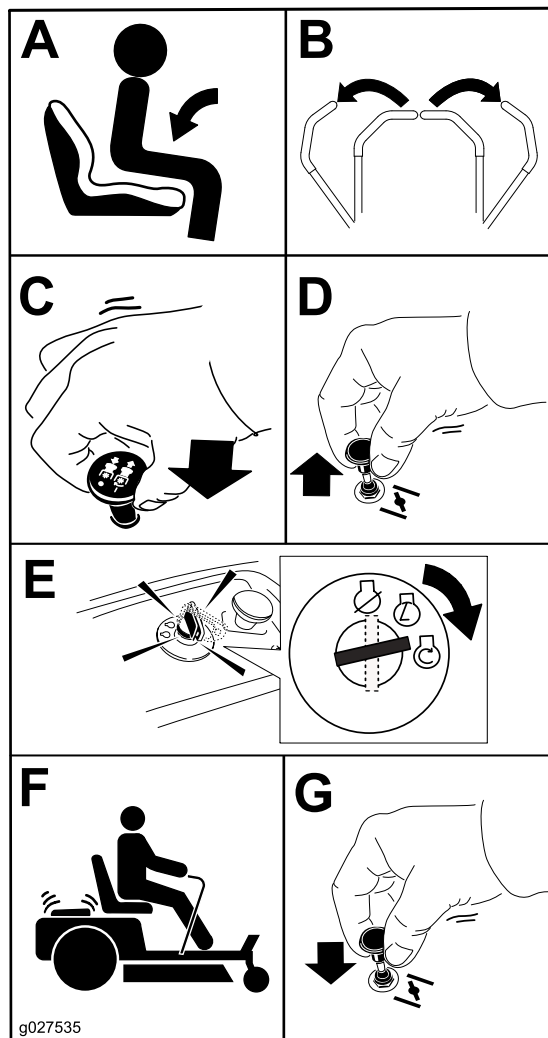

Figure 10
**Note:** A warm or hot engine may not require choking (Figure 10).